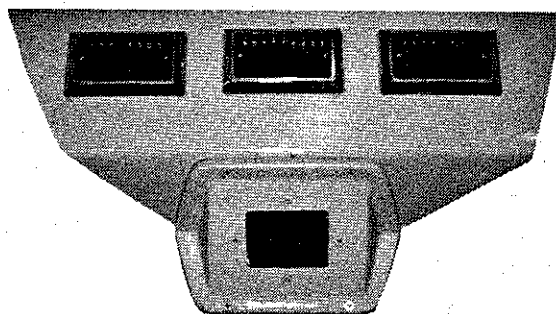

Figure 2-16. CCTV Camera Port
- CCTV camera, located in the rear of the coach, figure 2-16.